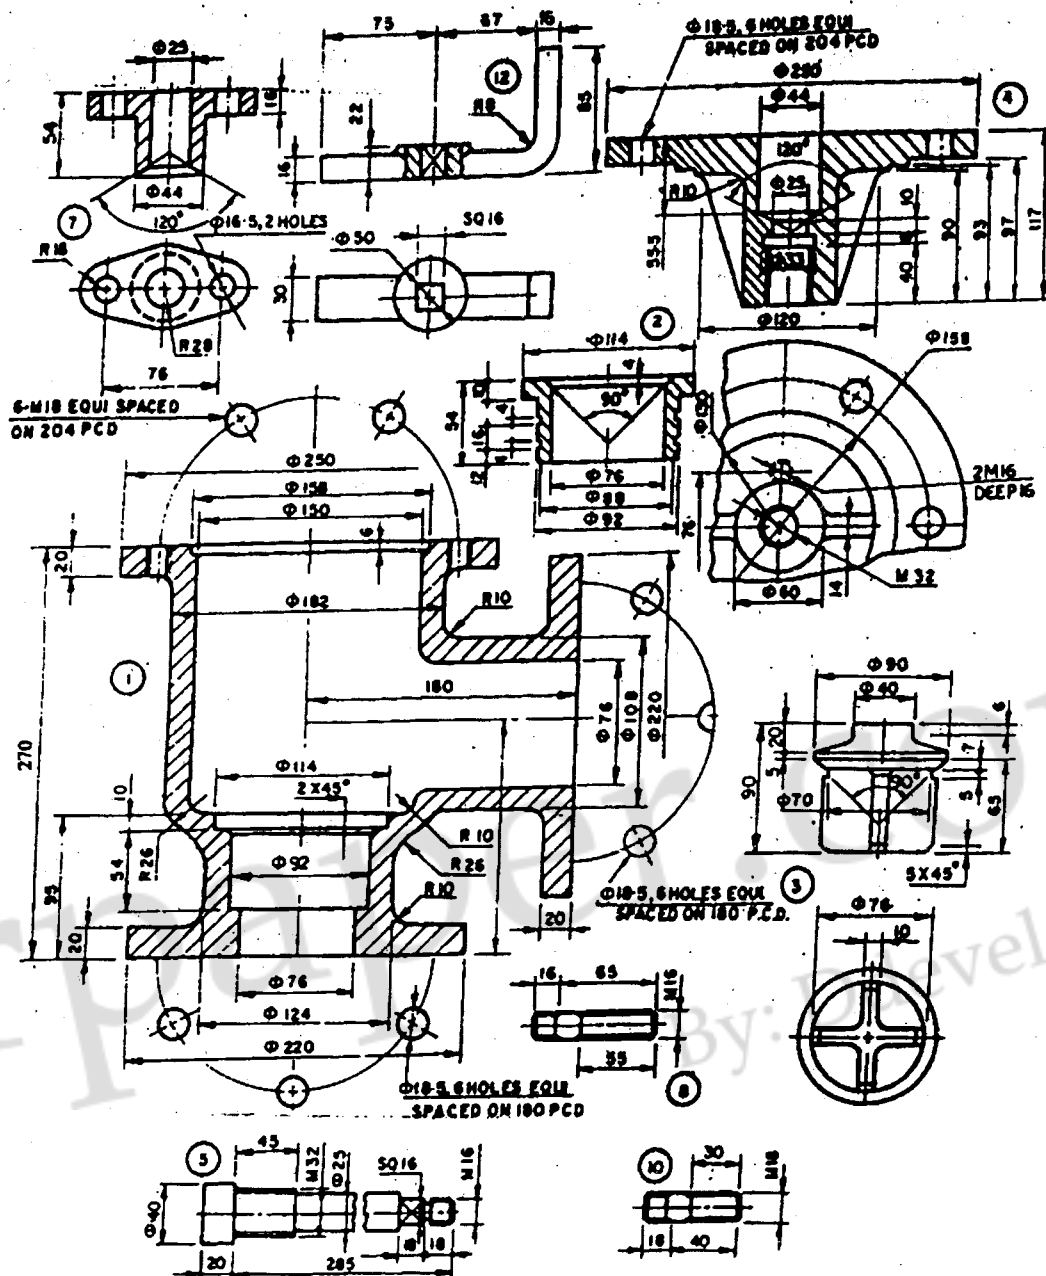

Figure-3: Details of Feed check valve
- Q9)** Figure-3 shows the details of a Feed check valve. Assemble all the parts and draw the Elevation-right half in section of the assembly to half scale.